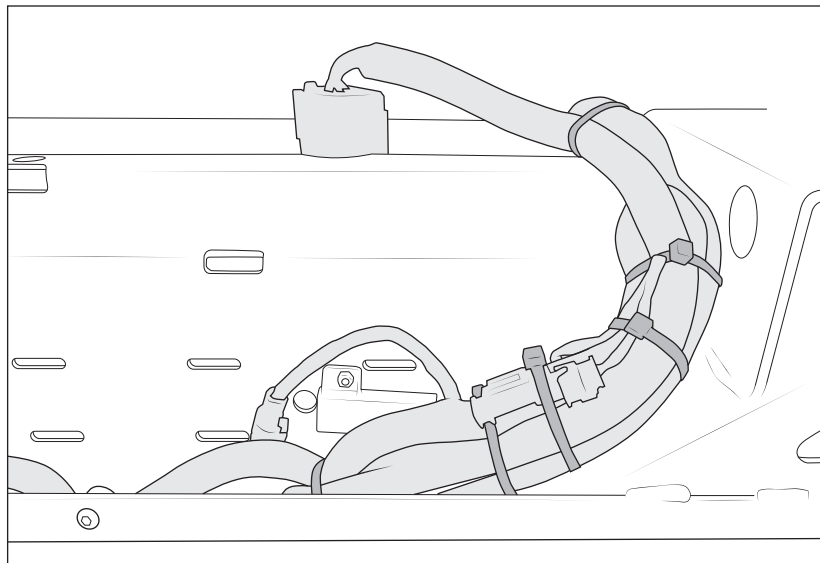

Figure 20
5. **2019+ Vehicles:** Bundle excess wiring and secure away from mounting points as shown (fig. 20), connect trailer connector to plug.